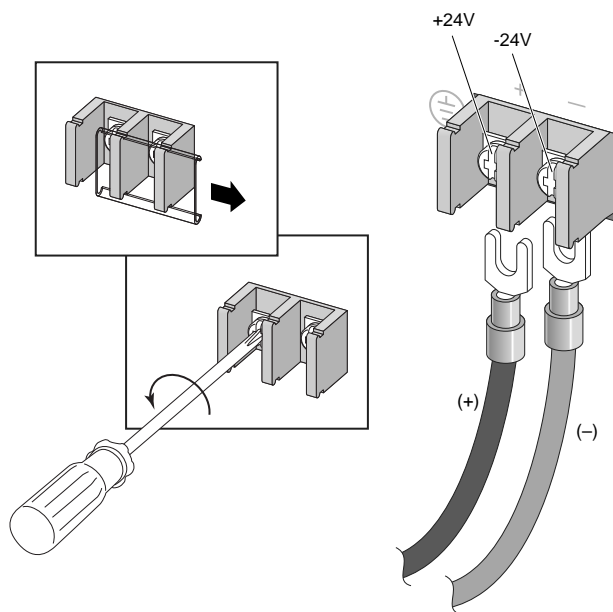

Figure 246: Connecting the DC Power Cables (Part 1)
- 3 Slide the cover off the terminal block (see Figure 246: Connecting the DC Power Cables \(Part 1\) on page 277).